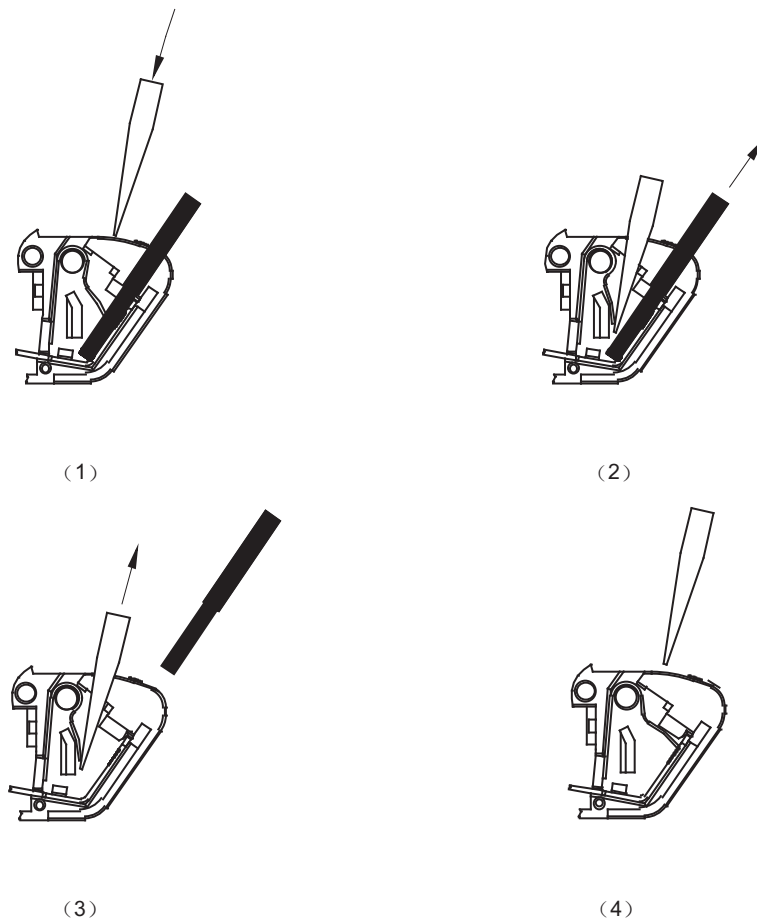

Figure 5
The method of Wiring as shown in figure 5.
- The method of Wiring as stitching in figure 5.